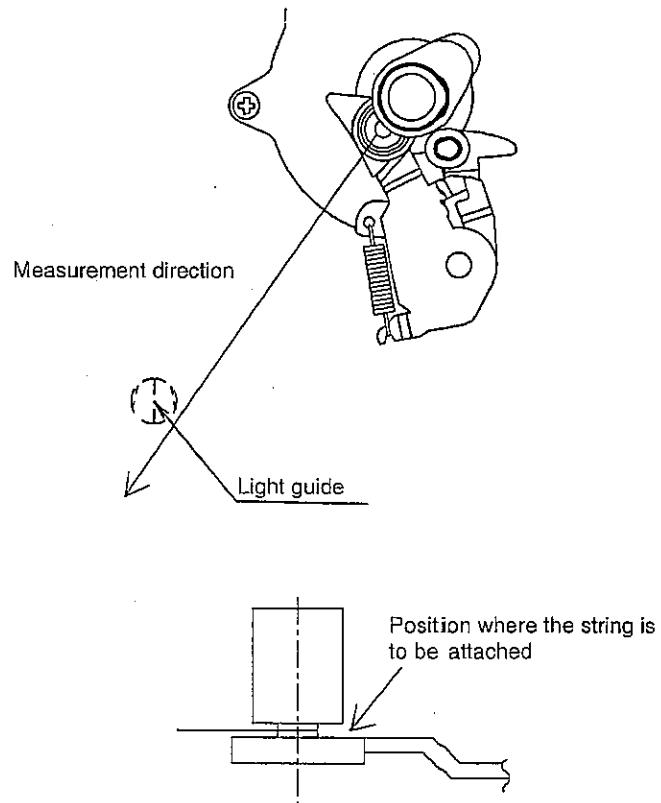

Fig. 9.
- (1) Remove the cassette control Assembly.
- (2) Attach a pinch roller snap fit force measurement string to the pinch roller.
- (3) Apply DC3V to the loading motor and put the system into playback mode, then snap-fit the pinch roller onto the capstan shaft.
- (4) Hook a tension gauge onto the pinch roller snap fit force measurement string, then, as shown in Fig. 9, pull the string in the direction of the light guide to gradually remove the pinch roller from the capstan.
- (5) When the pinch roller has come off of the capstan shaft, read the tension gauge value.